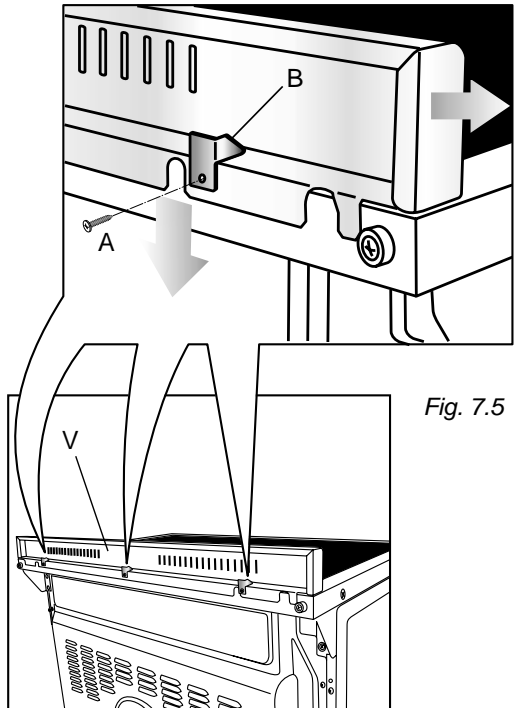

Fig. 7.5
Before installing the cooker, assemble the backguard "V" (fig. 7.5).
- The backguard must be fixed to the cooktop using the three supports "B" supplied with the appliance (see fig. 7.5).